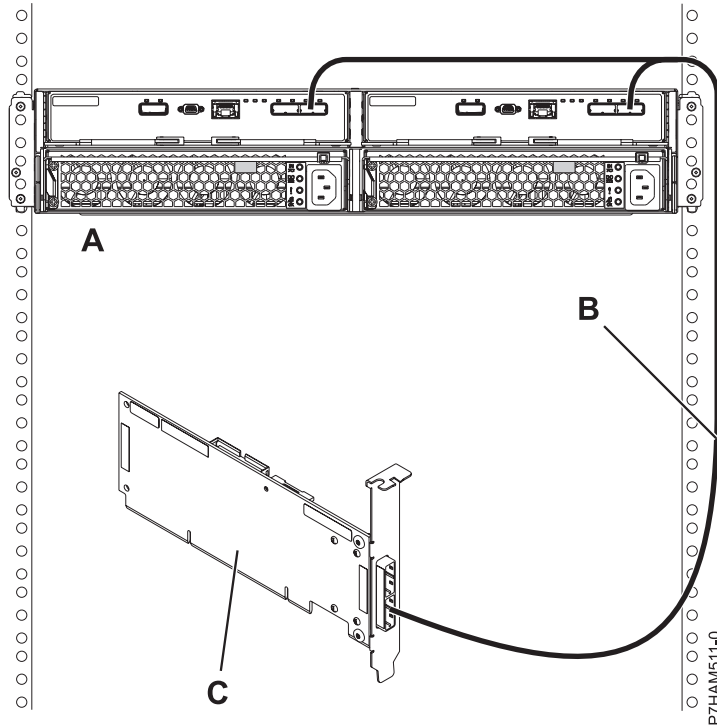

Figure 27. Mode 1 connection of one 58/87 disk drive enclosure by using a YO cable to a single SAS adapter
- h. Perform the mode 1 connection of one 58/87 disk drive enclosure (A) by using a YO cable (B) to a single SAS adapter (C) as shown in Figure 27 on page 24.